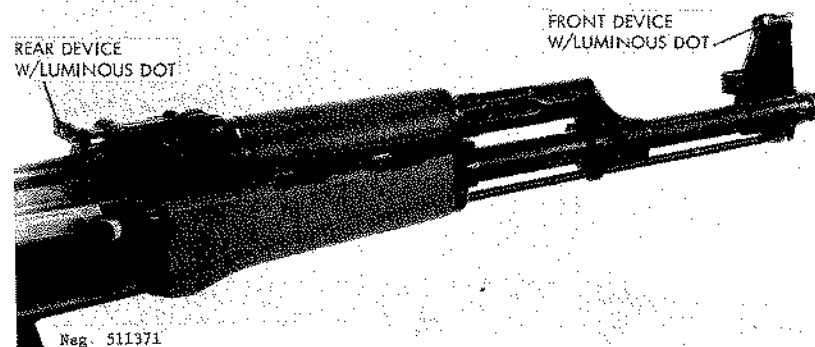

Figure 72. Night sight device.
g. The night sighting device is attached by snapping it on over the sights (fig 72); it can be moved out of the way in order to use conventional sights in the daytime. To use this device, align the luminous dots over each other and on the target, aim, and fire.